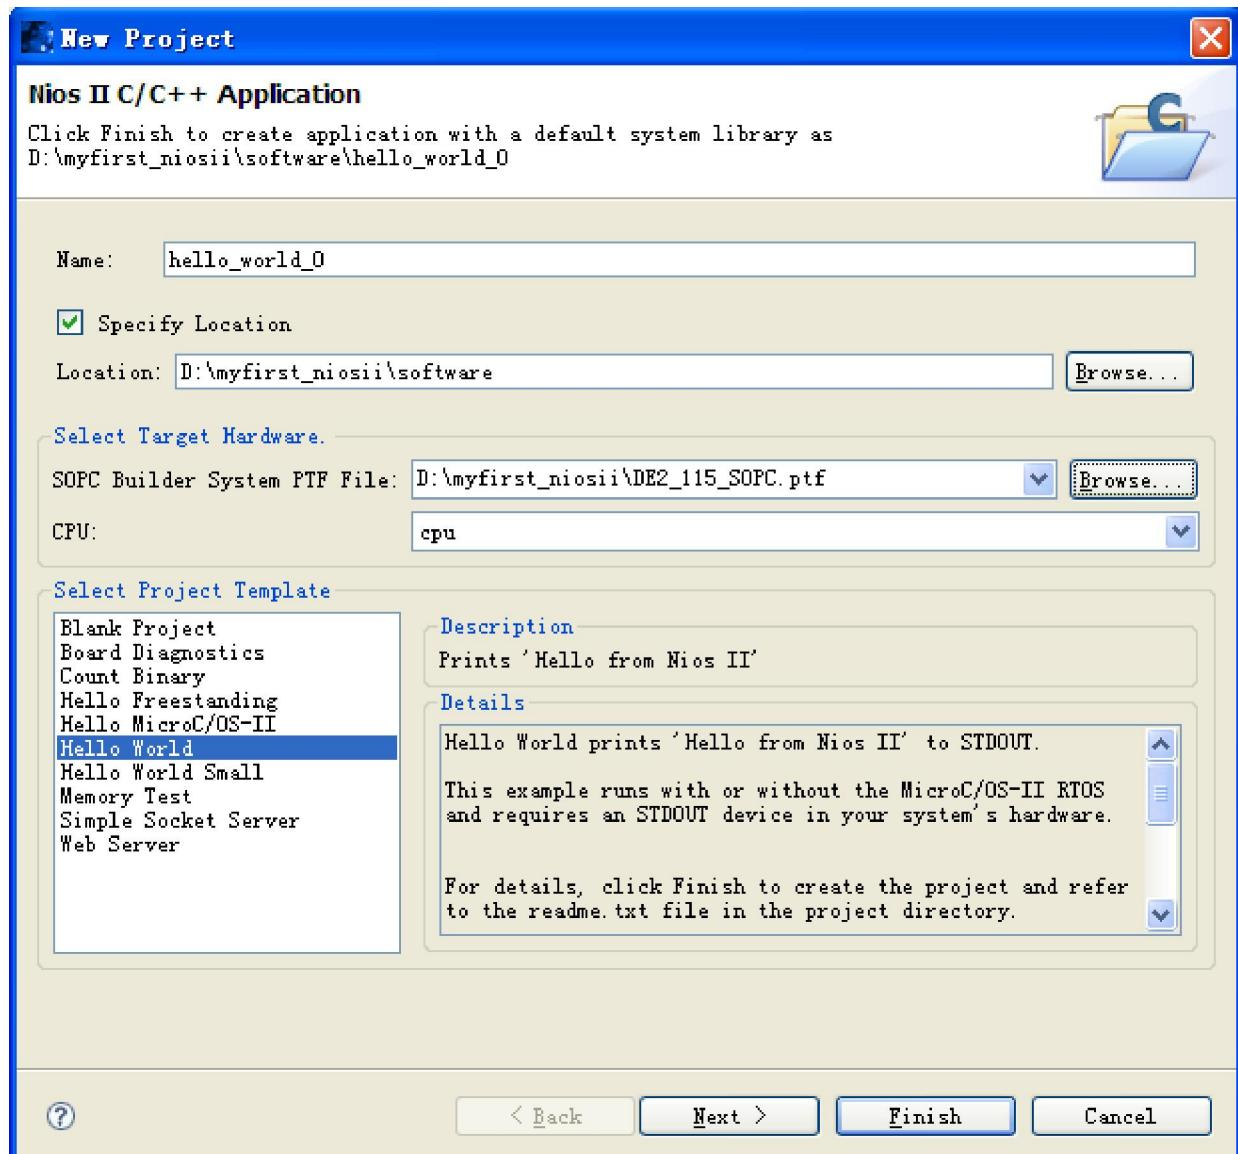

Figure 2-3 Nios II IDE New Project Wizard
- Select the target hardware system **PTF** file that locates in where the previously created hardware project resides as shown in Figure 2-3. See file Nios II Application Template.png